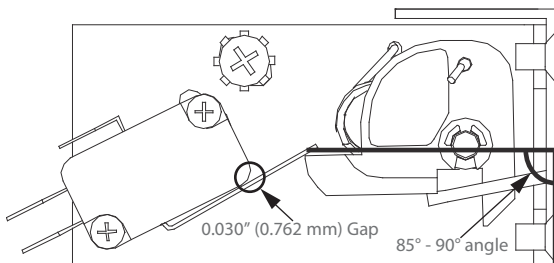

Figure 28: Primary Switch Adjustment
Use the following procedure to adjust the primary, secondary, and monitor switches. The secondary switch is located on the left side hinge assembly and the monitor switch is located on the right side hinge assembly. The primary switch is located on the upper-left corner of the oven and utilizes an actuator (attached to the door) and toggle assembly (attached to the chassis) to engage (Figure 28). See page A-8 of the Appendix for switch assembly detail.
- a. Visually inspect the latch toggle position and verify it is angled at no less than 85° and no more than 90° in reference to the front flange (oven face). See Figure 28.